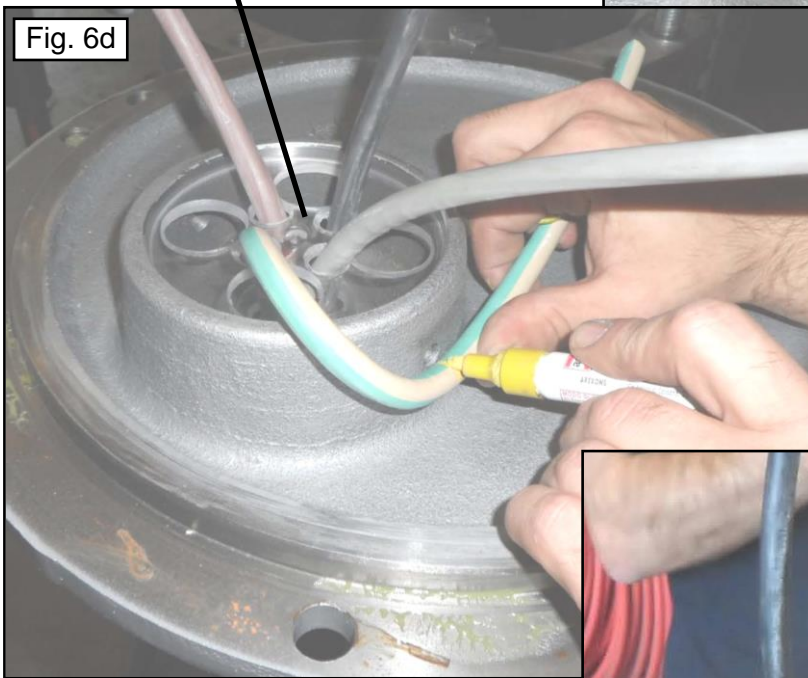

Fig. 6d
- Place the second plastic spacer **3E**, the wires have to pass through the 4 (four) prepared smaller holes as indicated in **Fig.6d, pg.9**